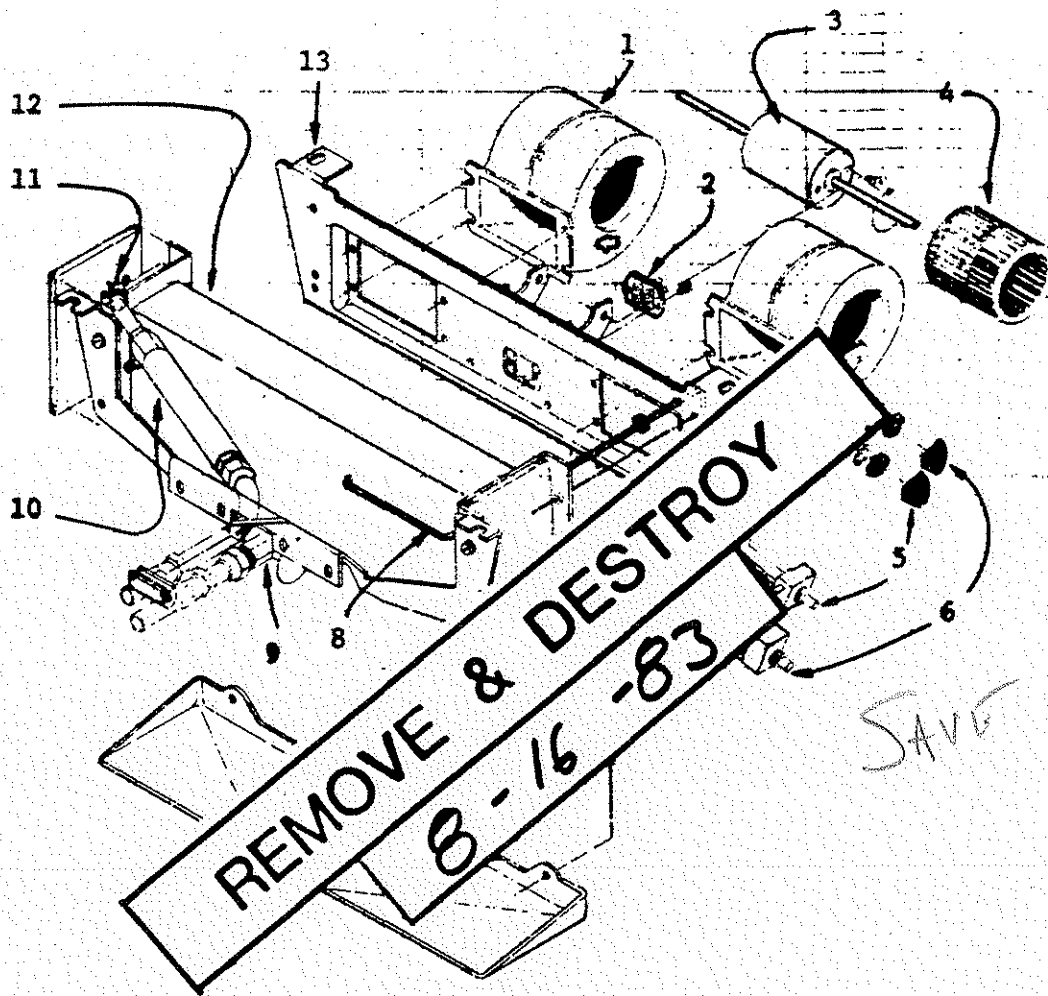

Fig. 1
- c. The equalizer line port is connected to the tube from the thermostatic expansion valve, see fig. 1 and 6.